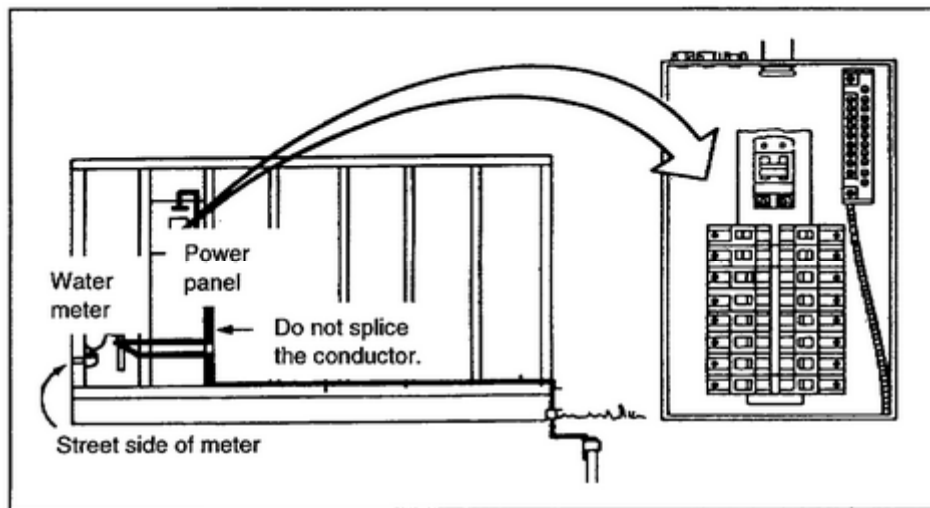

Figure 2-6. Ground conductor hooked to a metallic water system
- e. A ground conductor hooked to a metallic water system must be continuous (without splices) from the power panel, the water system, and the grounding rod (Figure 2-6).